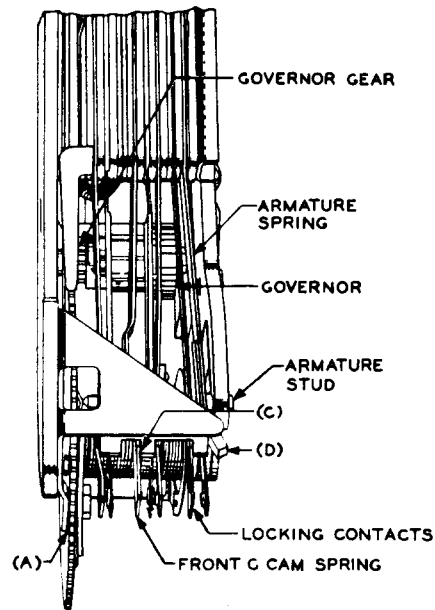

Fig. 12 - Engagement of Governor Gear and Pinion
* (b) Armature Spring Tension: Fig. 12(D) - The tension of the armature spring shall be such that the force required to move the armature away from the armature adjusting screw shall be
2.23 Contact Follow: Fig. 12(C) - With the armature electrically operated and the timer gear normal, the clearance between the tang on the front "C" cam spring and its stop shall be